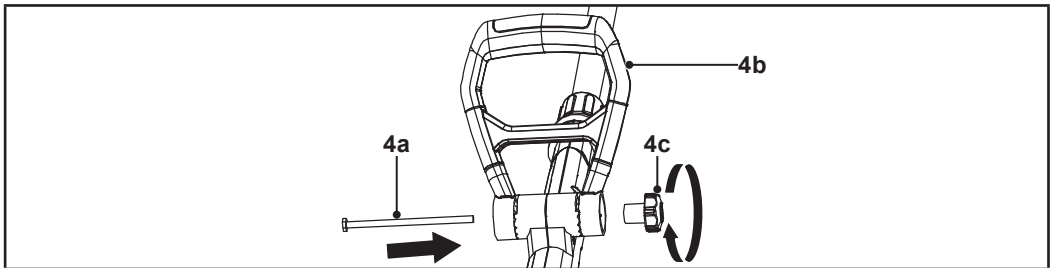

Fig. 1
2. Fit the auxiliary handle (4b) onto the axle of the housing (Fig. 1).
3. Fix the auxiliary handle (4b) with the long bolt (4a) and with the auxiliary handle rotary lock (4c) (Fig. 1).